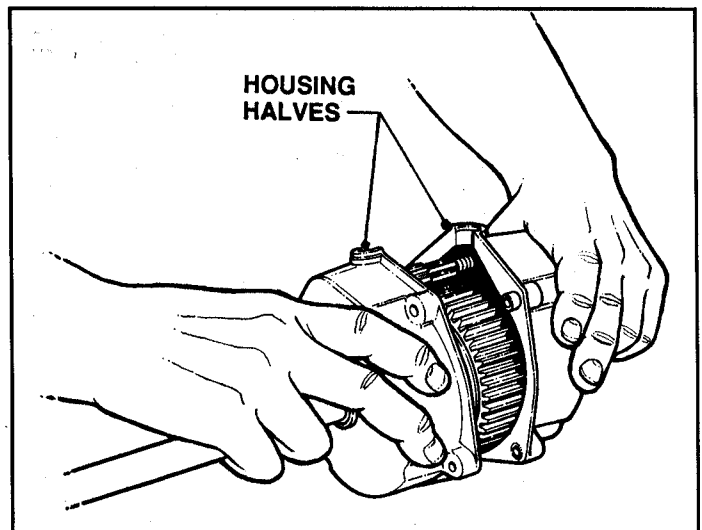

FIGURE 4.4
3. Separate housing halves and let grease drain into suitable container. See Figure 4.4.